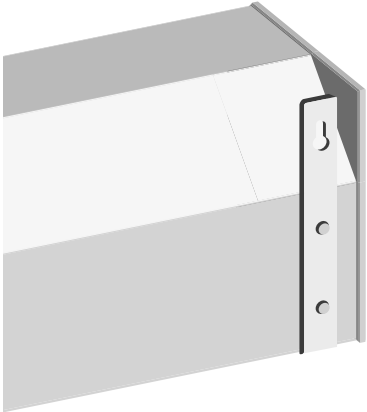

Figure 1: Wall mount using optional brackets
1. Mount screen through the holes in the wall mount brackets. Refer to Figure 1.